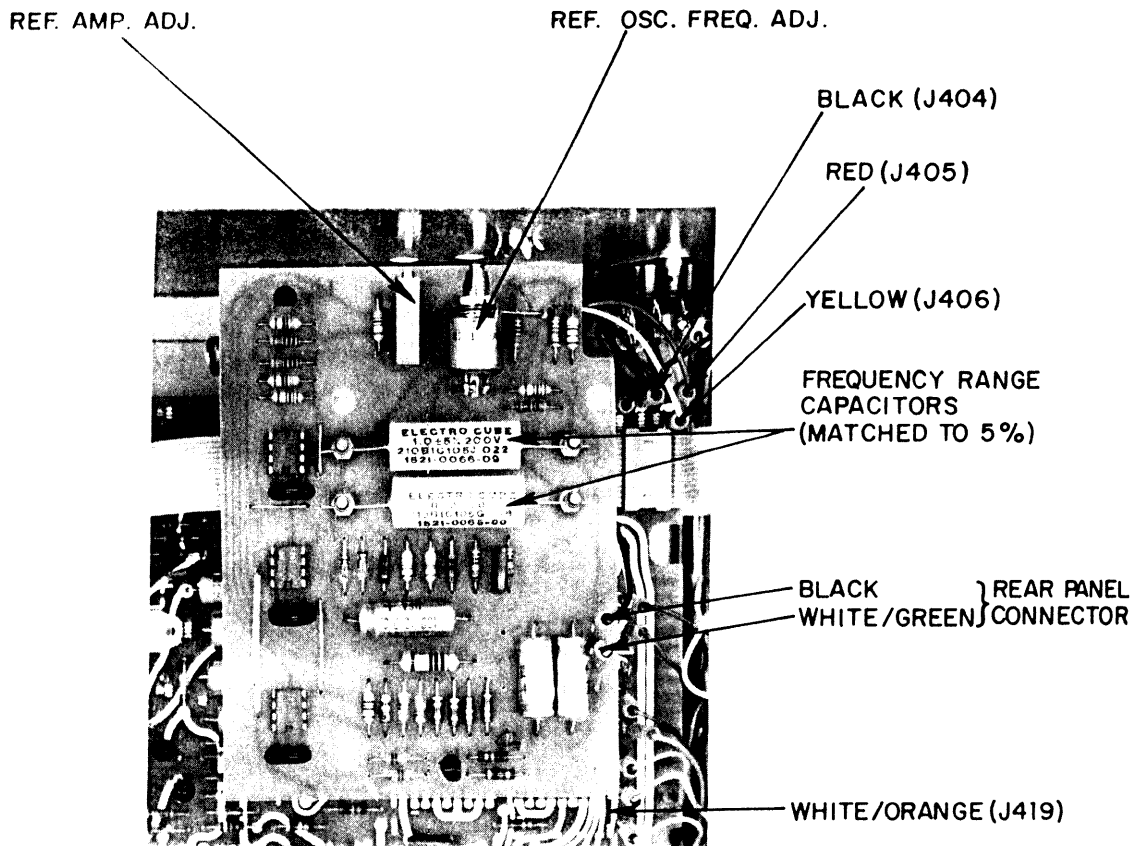

Figure IV-13. INTERNAL OSCILLATOR BOARD INSTALLED
If the Internal Oscillator is ordered separately, the installation is generally made by the customer. Three items are supplied, the oscillator board itself, a BNC connector with two wires attached, and a metal "tag" bearing the word "MONITOR". The oscillator circuit board is secured to the Model 128A by standoffs which plug into openings in the Model 128A Reference board as shown in Figure IV-13. This figure also shows the location of the various interconnecting wires, all of which are terminated in quick-disconnect contacts so that the installation can be completed in a matter of minutes with no special tools or soldering required.\* The oscillator adjustments are ordinarily preset at the factory for 100 mV rms out at the frequency specified by the customer. The appropriate frequency range capacitors are factory inserted. The following procedure can be used to make the installation.
- (4) Remove the Reference INPUT connector from the front panel. Then locate the "Monitor" tag over the panel opening and remount the connector so that the tag is secured in place by the connector mounting flange.
- (5) Position the oscillator board as shown in Figure IV-13 but do not snap it into place yet. Dress the red, yellow, and black wires out to the right, and the longer white/orange wire towards the front of the instrument.
- (6) Connect the red, yellow, and black wires as follows.
- (7) Connect the pink wire from the Ref. In connector to J418.
- (8) Locate the white/orange wire from the oscillator and connect it to J419. Dress this wire along the Ref. Bd.
- (9) Press the Oscillator board down until it snaps into place.
- (10) Connect the black and white/green twisted leads (from the rear-panel connector) to the Oscillator board quick-disconnect contacts as shown in Figure IV-13.